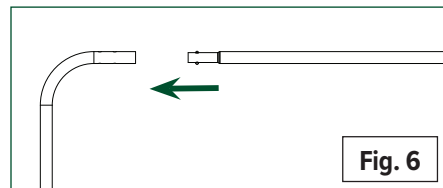

Fig. 6
4. **(Fig. 6)** Next, align both wheel forks as shown, with each fork angled back toward the rear of the chassis.
5. **(Fig. 6)** Starting with either wheel fork, hold one of the single wheels or one of the dual wheels in the center of the wheel fork. Then slide the axle through the outside of the wheel fork, through the center hub of the wheel(s) (apply steady, gentle pressure) and out through the opposite side of the wheel fork.
1. **(Fig. 6)** Take the straight section of the side tube and locate both swaged ends. Insert one swaged end of the straight section into one of the bent legs.
IMPORTANT: Do not use the large dipstick (Fig. 5) or the large yellow plastic “butterfly” cap (Fig. 6) to measure when filling the engine oil. It is hard to read when the oil is new, and you might over or under fill, resulting in engine damage. Instead, use this simple procedure.